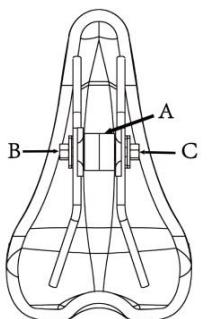

Figure 1
1. Use **Wrench (No. 89)** to loosen the **2 Nuts (No. B & No. C)** on the **Seat (No. 21)**. The round side of the **Seat Clamp (No. A)** should be horizontal and on the bottom. If it is not on the bottom, turn the **Seat Clamp (No. A)**, so the round side is on the bottom. If the **Seat Clamp (No. A)** does not fit on the **Seat Slider (No. 20)**, loosen the **2 Nuts (No. B & No. C)** some more. (Figure 1)